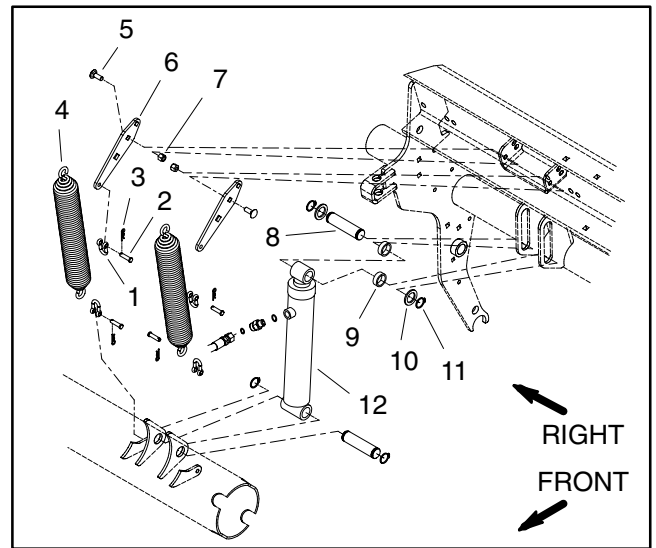
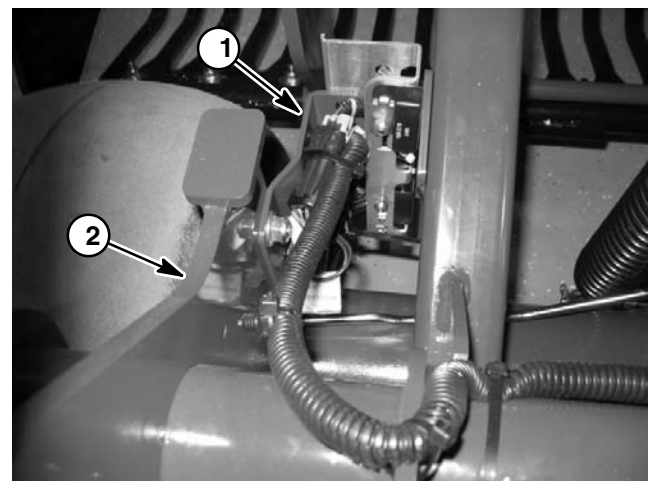

Figure 22
Figure 24
5. Disconnect the upper end of both extension springs from spring plates on coring head frame (Fig. 22):
B. Loosen, but do not remove, both flange nuts (Fig. 22 item 6) that secure the spring plates (Fig. 22 item 5) for both extension springs.
C. Using a 1/2" breaker bar, hold spring plate to prevent it from moving. Remove **upper** flange nut and carriage screw (Fig. 22 item 4) from spring plate and coring head frame.
D. Using lower carriage screw and flange nut as a pivot, carefully release tension on extension spring (Fig. 22 item 3) by rotating spring plate with breaker bar.
E. Remove hair pin (Fig. 22 item 3) and clevis pin (Fig. 22 item 2) that secure spring shackle (Fig. 22 item 1) to spring plate. Position extension spring away from coring head frame.
8. Disconnect upper end of lift cylinder from coring head frame (Figs. 22 and 23):
B. Pull cylinder pin from coring head frame and lift cylinder. Locate and retrieve two (2) thrust washers and two (2) spacers as pin is removed.
10. Remove proximity switch bracket from machine frame (Fig. 24). Position switch bracket with proximity switches still attached away from H-frame.